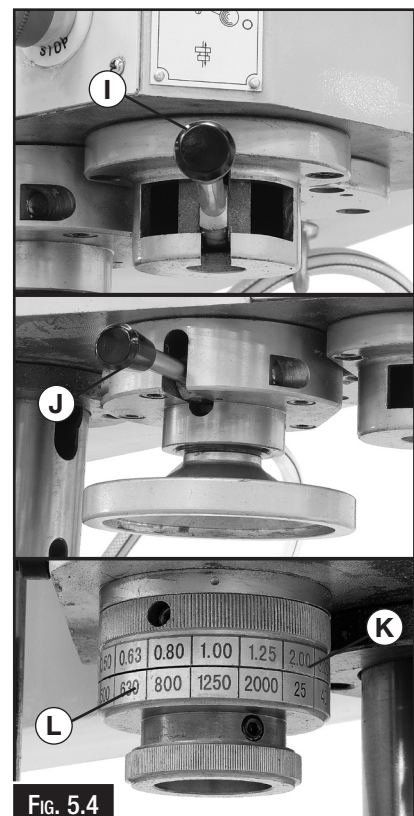

FIG. 5.4
- N. Spindle & Feed Handle:** Used to raise and lower the spindle. Also when pulled towards the operator, engages the auto feed to the spindle. (Fig. 5.4)